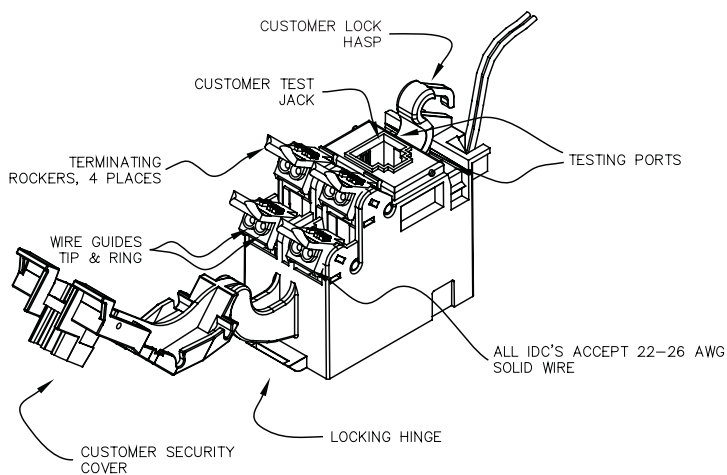

Figure 1
1. The TII 95S Series ADSL POTS Splitter Module maintains a constant direct connection between customer and central office service provider. The Splitter Module is equipped with a customer test jack (See Figure 1). The customer can insert the RJ-11 plug from a working telephone into this test jack to assure a signal is received from the central office. This is the only time the customer is disengaged (both DSL and POTS service) from the central office.
1. Three telephone voice (POTS) pairs and one DSL line (DATA) can be connected to a single Splitter Module. The customer has the option of installing a #10 Master lock around the customer lock hasp (See Figure 1).
2. When installing the first pair of customer telephone wires, always begin with the bottom terminating rockers (See Figure 1).
7. Lift all Splitter Module rockers to the open position as shown (See Figure 1).